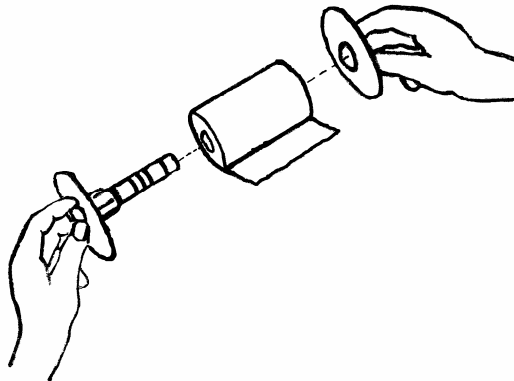

Figure 1-1: Loading narrow labels onto the label spindle.
Refer to Figures 1-1, 1-2 and 1-3.
- Refer to Figure 1-1 while following these instructions: For narrow labels, remove the right half of the label spindle and put the label on the label spindle so that the end feeds from the bottom of the roll. Reconnect the right half of the spindle with the label roll snugly secured between the circular plates of the spindle.